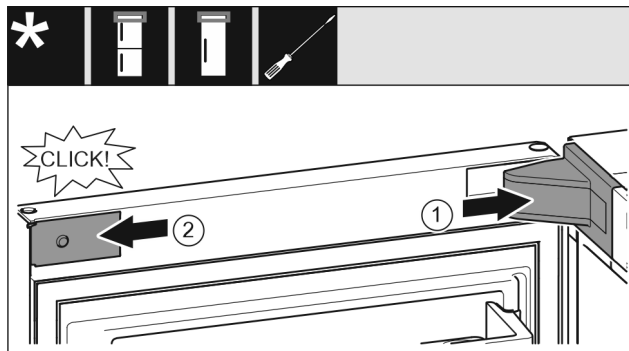

Fig. 23
- Put the swap bearing block cover Fig. 23 (1) on and engage, push apart carefully if required.
- Place the trim Fig. 23 (2) on the side and engage.